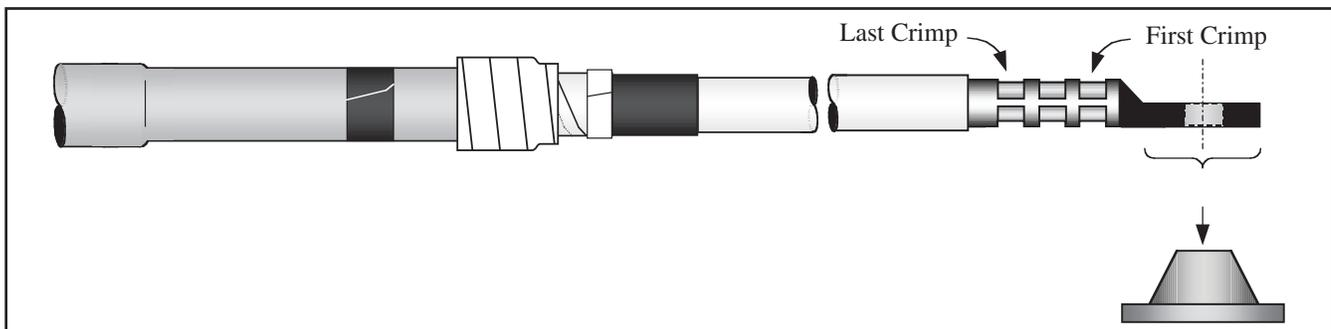

Figure 22
- (b.) **Ensure that each lug face is parallel to equipment bushing or lug connection interface (Figure 22).**
- (c.) Crimp terminal lug according to manufacturer's recommendations. Start at the upper end as shown (Figure 22). Remove all traces of oxide inhibitor that may have come out of lug barrel during crimping.